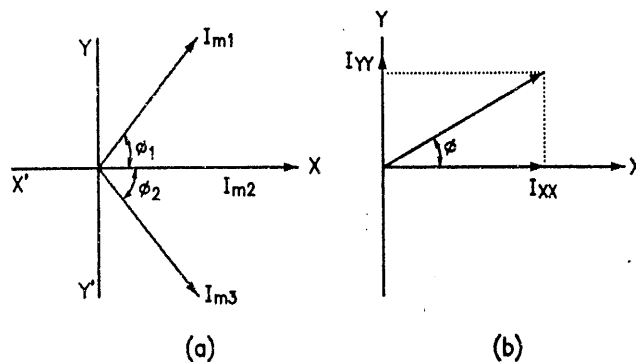

FIG. 2.20
- Consider three alternating currents i_1, i_2, i_3 in three branches of a circuit as shown in Fig. 2.20 (a). Let they may be written by
- The maximum value of three current I_{m1}, I_{m2} and I_{m3} are given by the phasors as shown in Fig. 2.20(a).
- If ϕ is the phase difference (leadings) between resultant current and horizontal axis which is shown in Fig. 2.20(b).